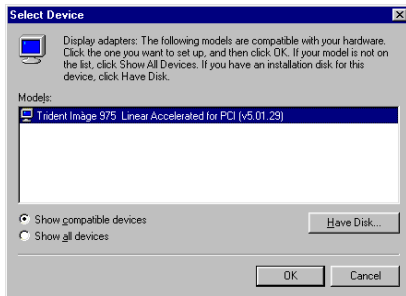

Figure 3-7.
8. After the files have been copied from the diskette drive to the hard drive, a “select device” window will appear as shown in Figure 3-7. Under Models, the line, Trident 3DImae 975x linear accelerated for PCI V5.Xx.xx” will now be listed